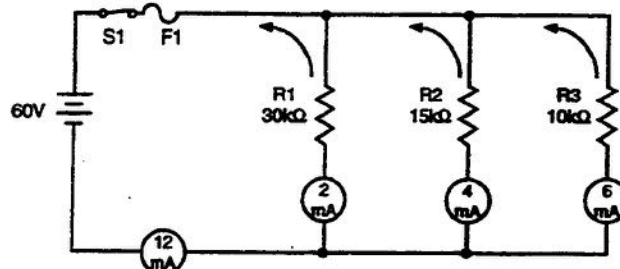

Figure 2-43. Normal parallel DC circuit.
**Parallel circuit troubleshooting.** If we compare the different diagrams of the same parallel circuit, shown in figures 2-43, 2-44, and 2-45, we can readily see that something is not right.